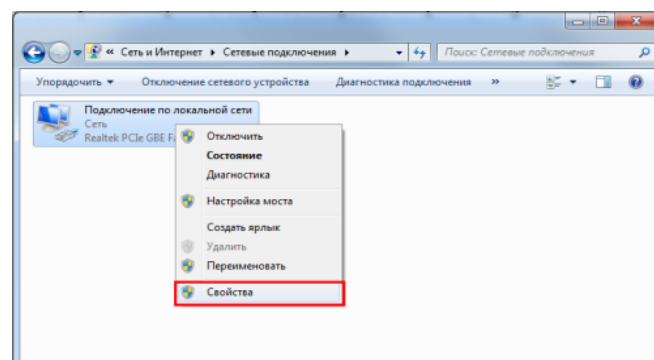

Figure 3.3 – Properties of connection by local net
- 3) Choose network connection with SunSDR2 connected to it as it is showed in Figure 3.3., then push the right button of the mouse on the icon and choose **Properties** in the drop down window.